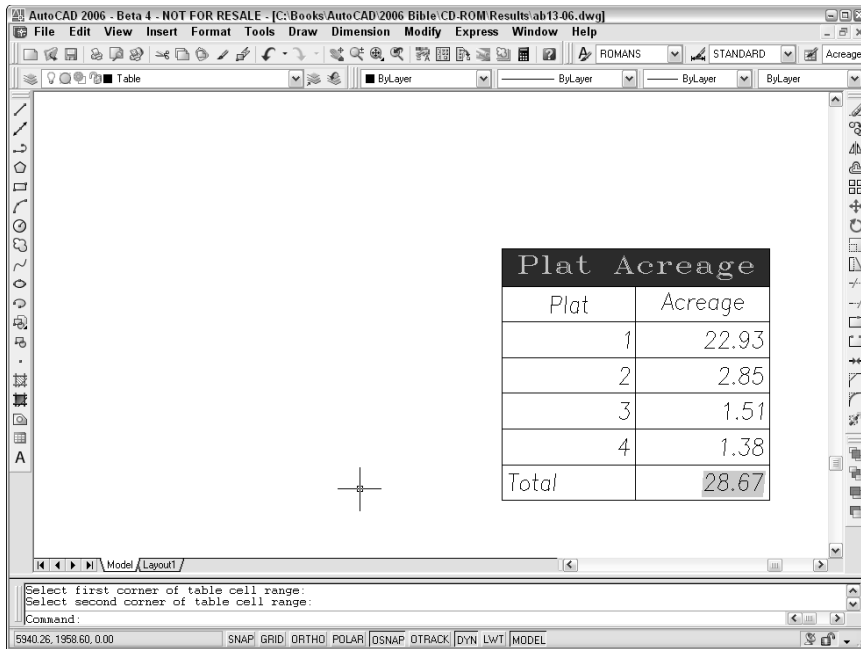

Figure 13-23: The plat acreage table.
11. Complete the data for the four plats as shown in Figure 13-23, pressing Tab to go from cell to cell.
14. At the Select first corner of table cell range: prompt, click anywhere inside cell B3. At the Select second corner of table cell range: prompt, click anywhere inside cell B6. Press Enter. Your table should look like Figure 13-23.